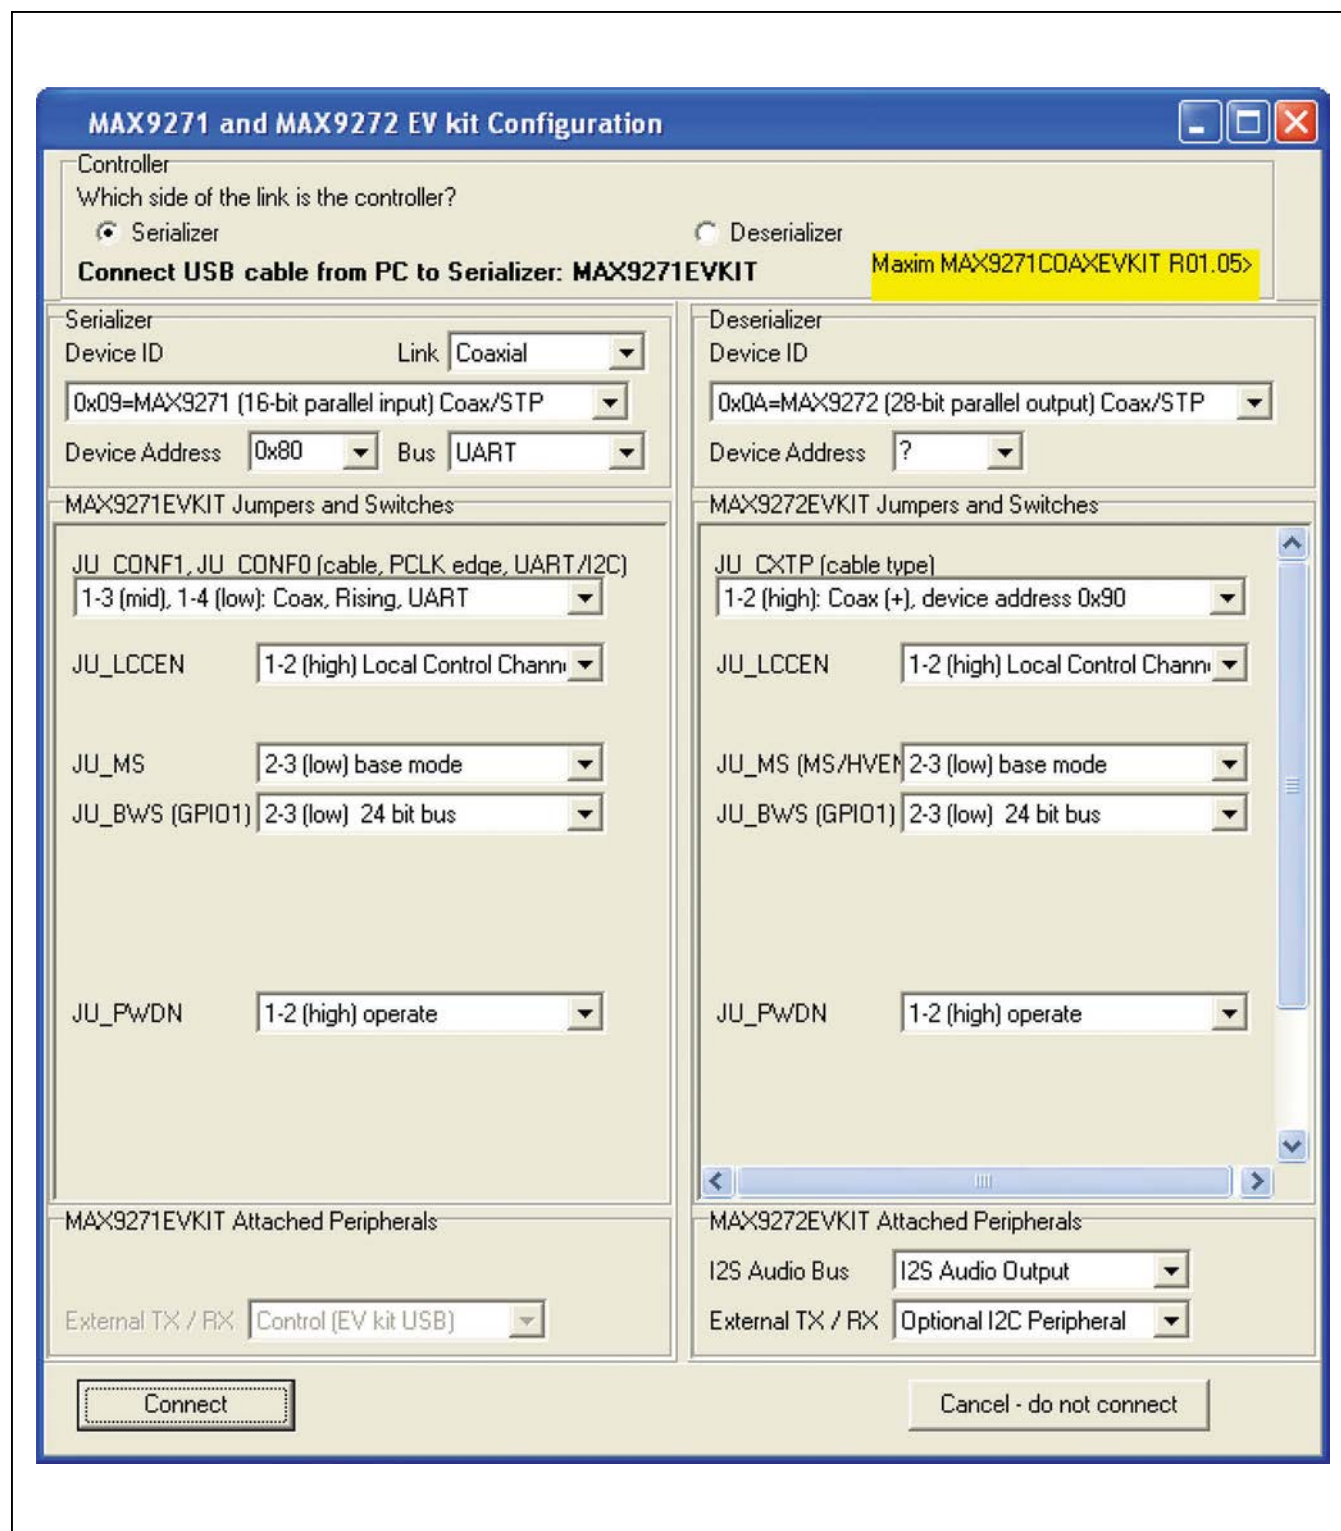

Figure 7. MAX9271/MAX9272 EV Kit Software Connect Window
- 11) Start the MAX9271 coax EV kit software by opening its icon in the **Start | Programs | Maxim Evkit Software | MAX9271** menu. The EV kit software configuration window appears, as shown in Figure 7.
The **Change Configuration** button brings up the **Software Connect** window (Figure 7), allowing the software GUI to select which side of the link the USB cable should be plugged into and the **Jumper Setting** window (Figure 8) to help in configuring the boards. Controlling from the MAX9272 side requires changing some jumper settings, as described in this window. If the MAX9271 and MAX9272 device addresses have been previously changed from their factory power-on-reset (POR) values, the new addresses must be specified in the **Software Connect** window to allow register access.